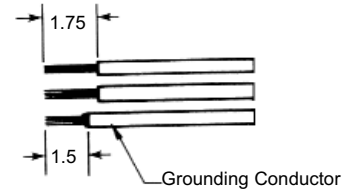

Figure 4L
3. Strip conductor insulation to the dimensions shown in Figure 4L.